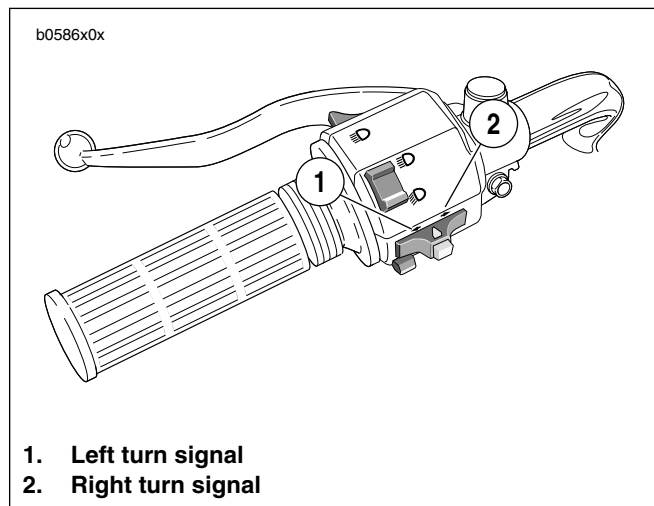

Figure 7-59. Turn Signal Controls
- b. See Figure 7-59. Activate left turn signals using switch on left handlebar. Front and rear left turn signals must flash.